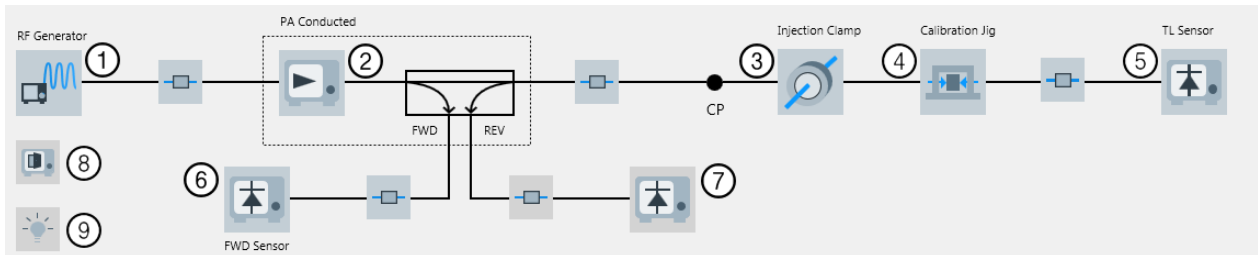

Figure 4-147: EMS hardware setup diagram (conducted) for BCI in Calibration View
- The "Calibration View" (see Figure 4-147)